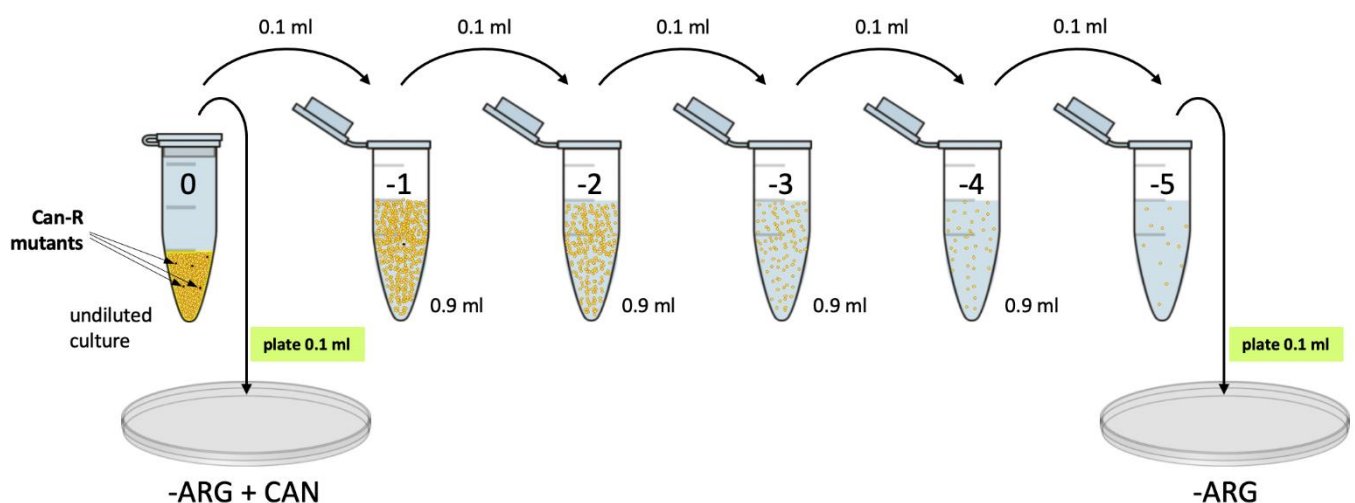

Figure 4. Serial dilution and plating approach. Each step provides a 10-fold dilution of a culture.
Because CAN resistant cells are rare (as mutations are rare in general) we must plate a high number of cells on a plate with CAN, to get just a few resistant ones. Most of the plated cells will die in the presence of CAN, but the mutants (shown in black in Figure 4) will survive and each will grow into a colony. On a plate without CAN, all the cells (both in black and in yellow in Figure 4) would be able to grow into colonies.
- Looking at Figure 4, can you explain why we need to serially dilute the culture multiple times before plating on the plate which has no CAN?
Label the tubes in each set with the strain name and the dilution factor from –1 to –5, as shown on the schematic (Figure 4). You should have 5 tubes labelled WT, –1 to –5, and the same for all your other strains.
- Following a similar logic, use the colony count for the CAN plate (column 3) to calculate how many CAN resistant cells you had in *1 ml* of the same culture (column 4). Pay attention to the different dilution, compared to plates that did not contain CAN. (Figure 4)